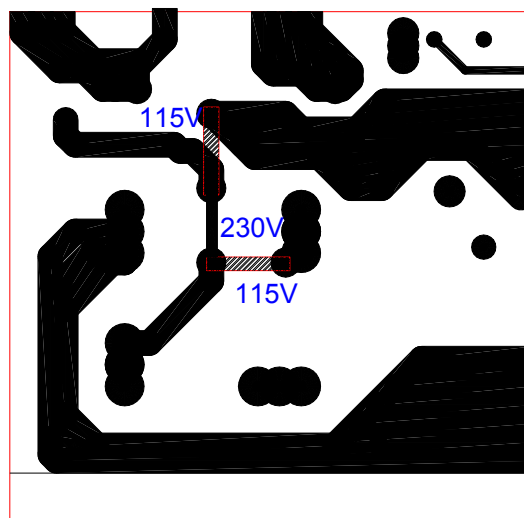

Figure 15. 230VAC or 115 VAC selection
6. To select the desired mains voltage, install the jumpers as shown in Figure 15.